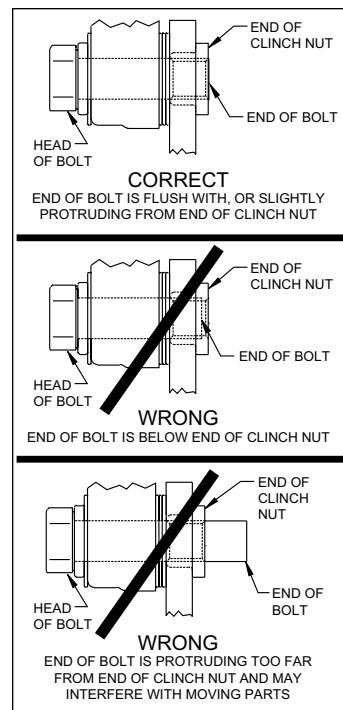

Figure 4. Clinch Nut Engagement Diagram
**CAUTION:** All mounting bolts must fully engage clinch nuts. Be sure to check that all bolts are either flush or protruding through flanged side of clinch nut after shimming, Figure 4.
- Adjust by adding or subtracting shims (2) between the bracket and the spindle. Always use the same amount of shims on each of the two mounting bolts.
•**NOTE:** The end of each bolt must be flush with or slightly protruding from the head of the clinch nut, as shown in Figure 4. If necessary place spare shims (2) between washer (19) and caliper mounting ear to achieve the proper clinch nut engagement. Once the caliper alignment is correct, remove the ProSpindle and steering arm bolts one at a time, apply red *Loctite*® 271 to the threads, and torque to 55 ft-lb.